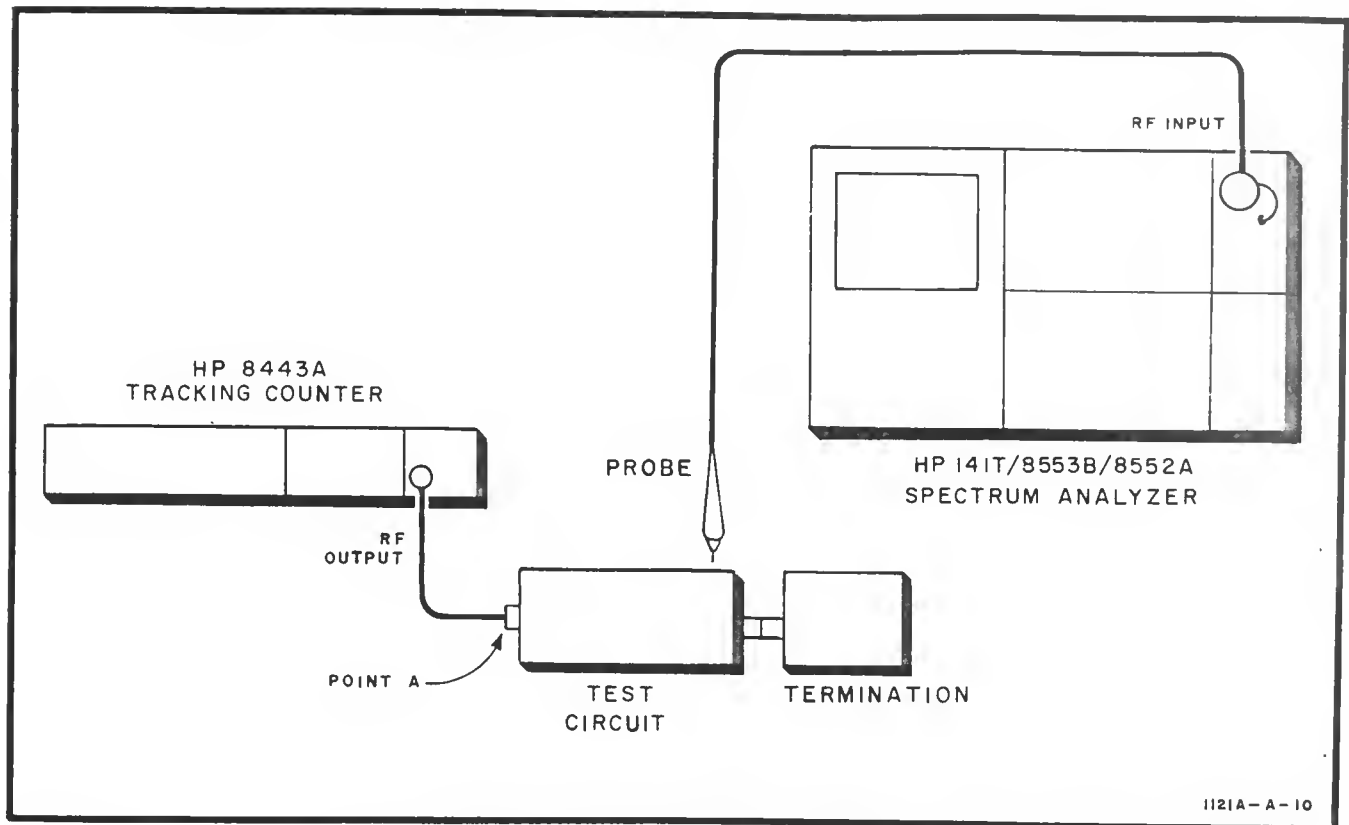

Figure 3. Using Model 1121A for Spectrum Analysis
14. FREQUENCY RESPONSE MEASUREMENTS. The Model 1121A can be used with Model 8553 Spectrum Analyzer and Model 8443A/B Tracking Generator to make swept transmission and reflection measurements. Figure 3 shows the measurement setup. First establish a 0 dB reference trace on the analyzer display with the probe at point A. Move the probe to the test point in the circuit under test. The gain or attenuation between point A and the test point will be displayed.